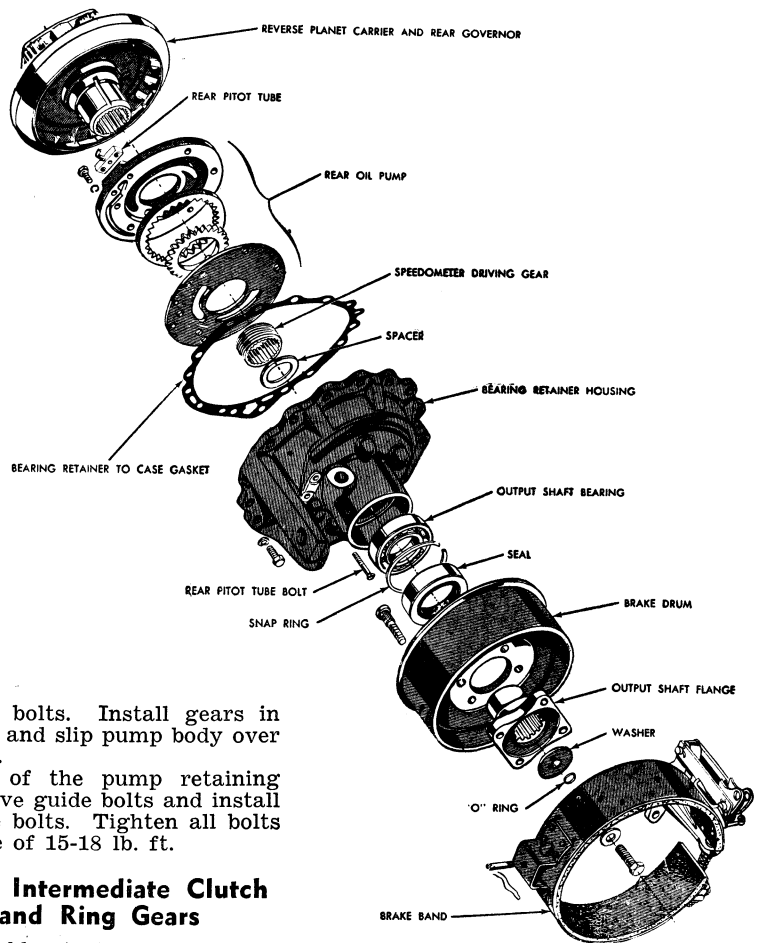

Fig. 29 Rear bearing retainer and rear pump
1. To disassemble, refer to Fig. 29 and remove pump from bearing retainer.